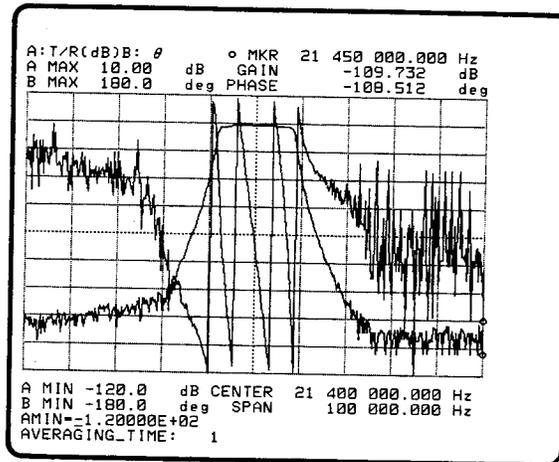

Figure 3-113. The Weighting Factor
2. The current weighting factor will be displayed in **yellow** on the System Message Line as shown in Figure 3-113.